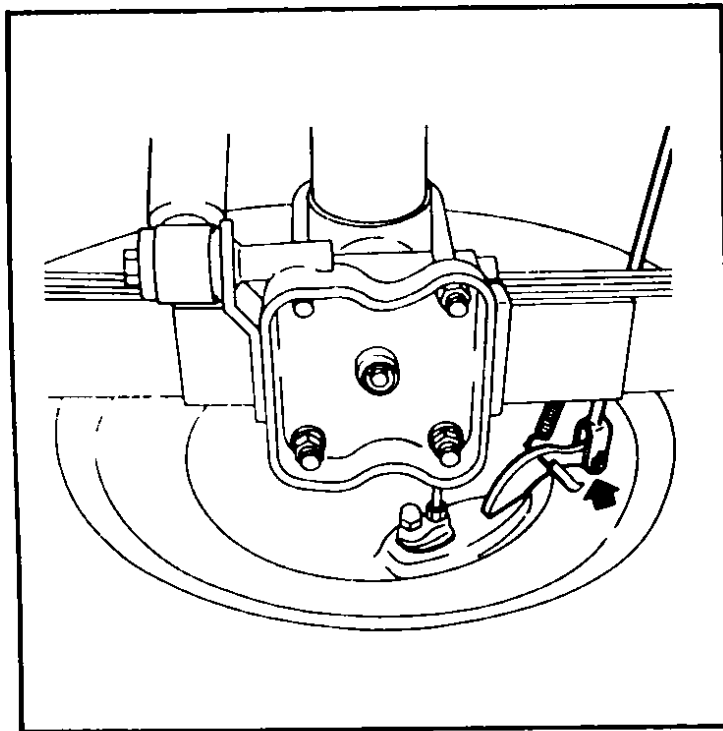

Fig 120 Adjusting parking brake – Model 610 station wagon
- 5 Make sure that the part indicated by the arrow in Fig 120 and 121 is returned to the original position when the parking brake lever is released